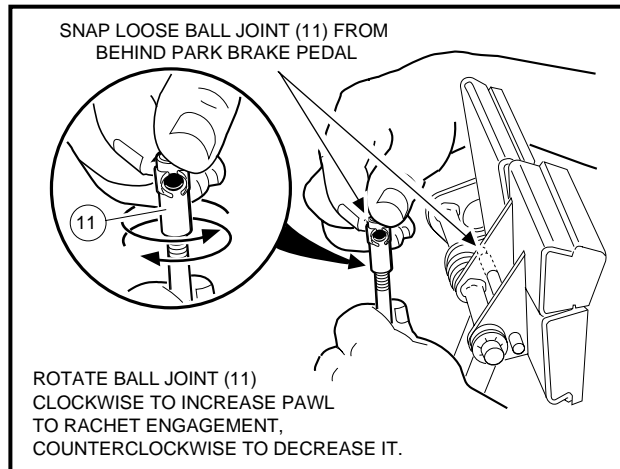

Figure 5-8 Brake Rod Adjustment
- 3.6. If ratchet/pawl engagement must be adjusted, disconnect the ball joint at the top of the brake rod and rotate the ball joint sleeve clockwise to increase engagement or counterclockwise to decrease engagement. Reconnect ball joint (**Figure 5-8, Page 5-5**).